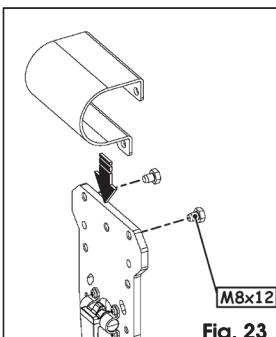

Fig. 23
1. Assemble the rod-carrier plate (Fig. 23 ref. ①) with the pocket for the selected rod (Fig. 23 ref. ②) only using the two rear screws.